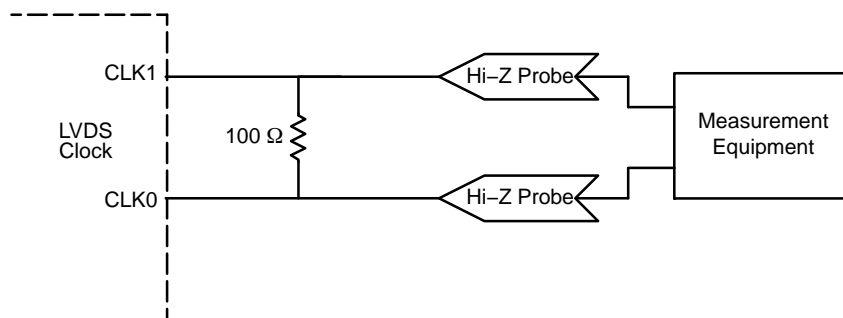

Figure 9. LVDS Parameter Measurement
13. LVDS outputs require 100 Ω receiver termination resistor between differential pair. See Figure 9.